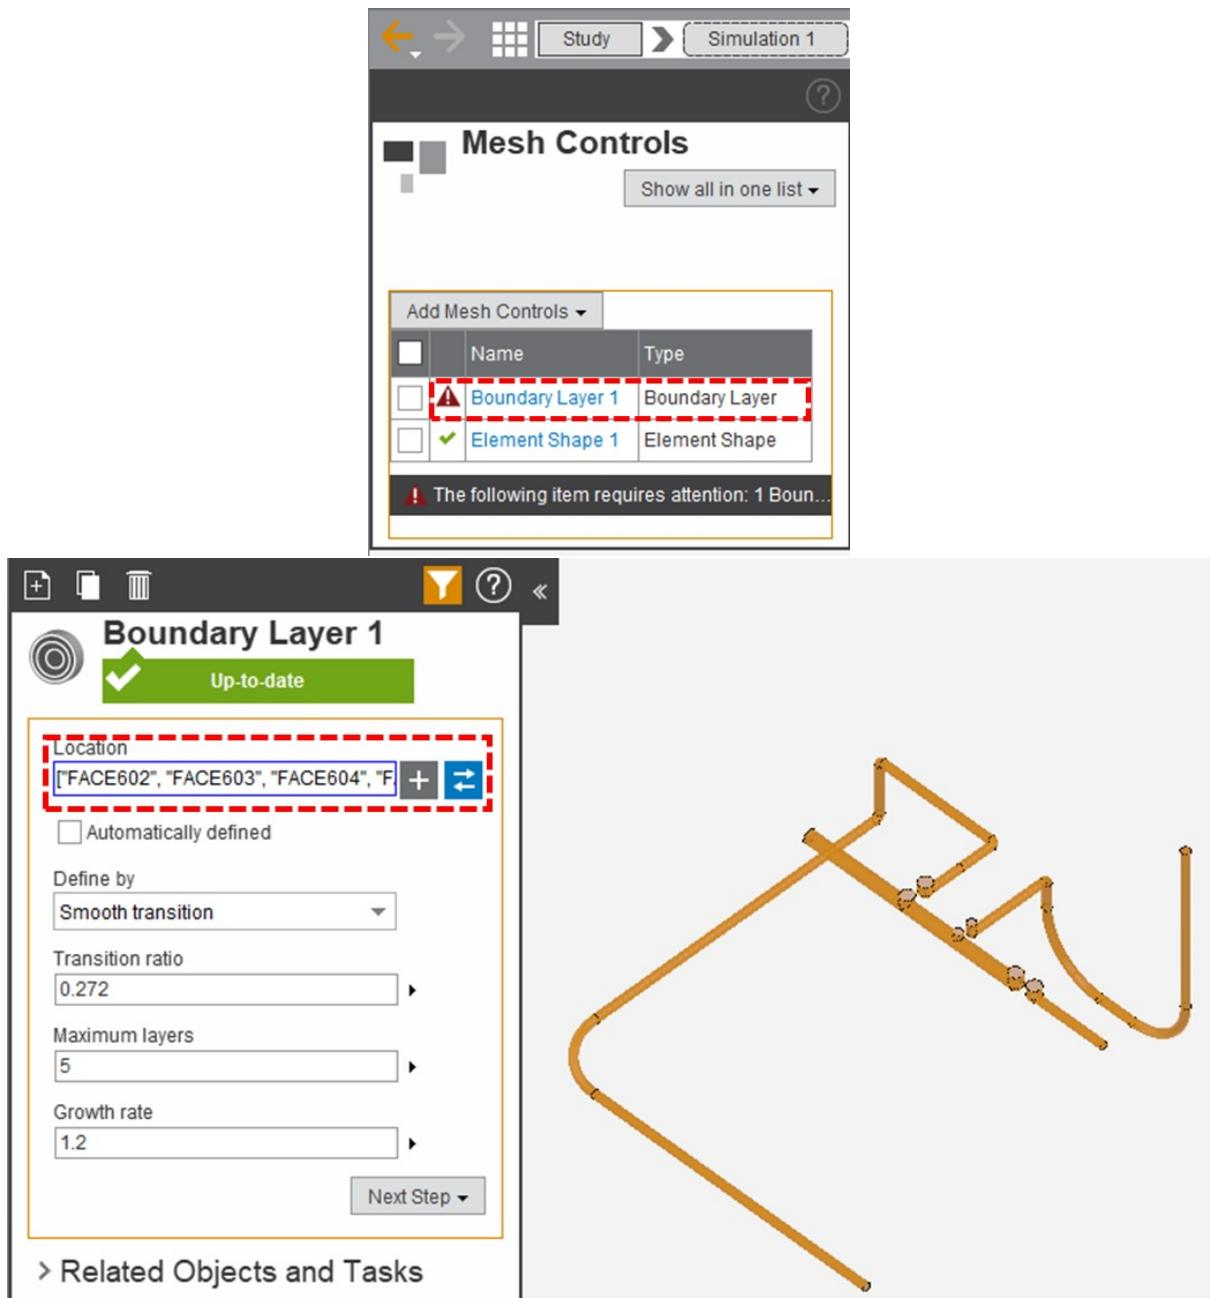

Figure 3.3:
- Once the Mesh Controls link is selected, we will need to define our boundary layer as shown in Fig. 3.3. We will be defining the boundary layer by select all the faces of both fluid volumes except the inlet and outlet faces where the fluid will be entering and exiting the system. Select all those faces and the press the + sign next to the location drop down to add them.